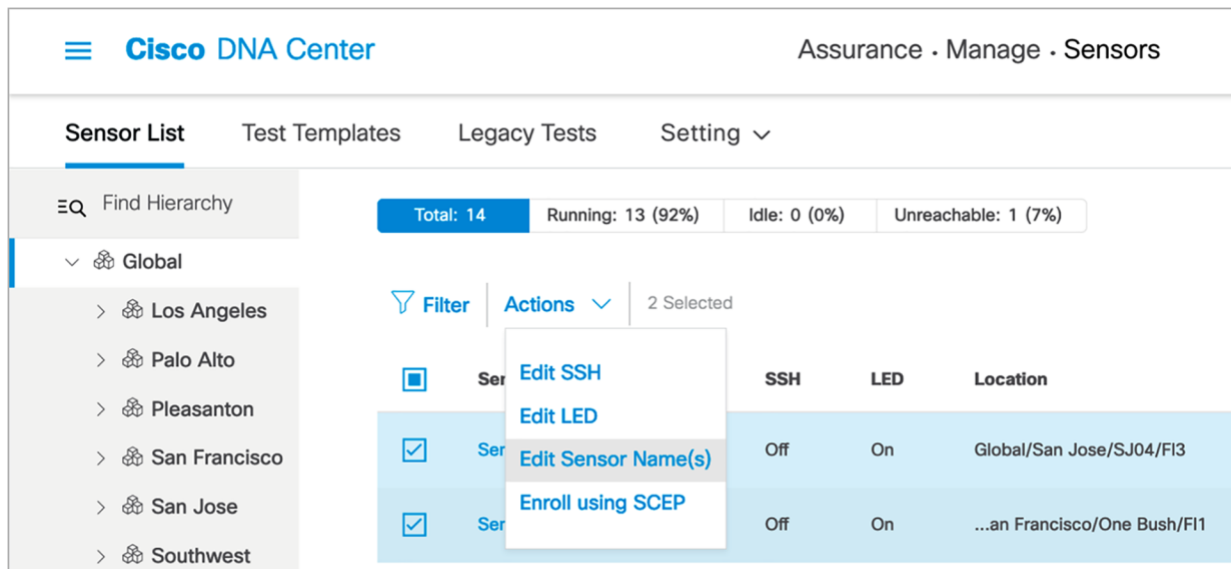

Figure 45.
- h. If you want to change the sensor name after the PnP claim, go to Assurance > Sensors and choose Edit Sensor Name(s) from the Actions drop-down menu (**Figure 45.**).